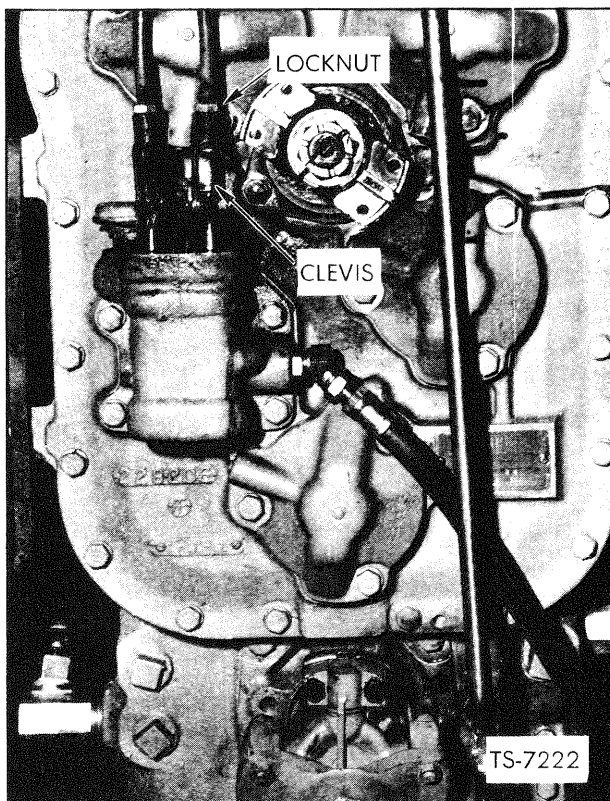

Fig. 20 Adjust Linkages at the Transmission
2. Loosen the locknuts and adjust the clevises and locknuts on the ends of both shift rods as necessary until the levers in the operator's compartment are correctly aligned. See Fig. 20.